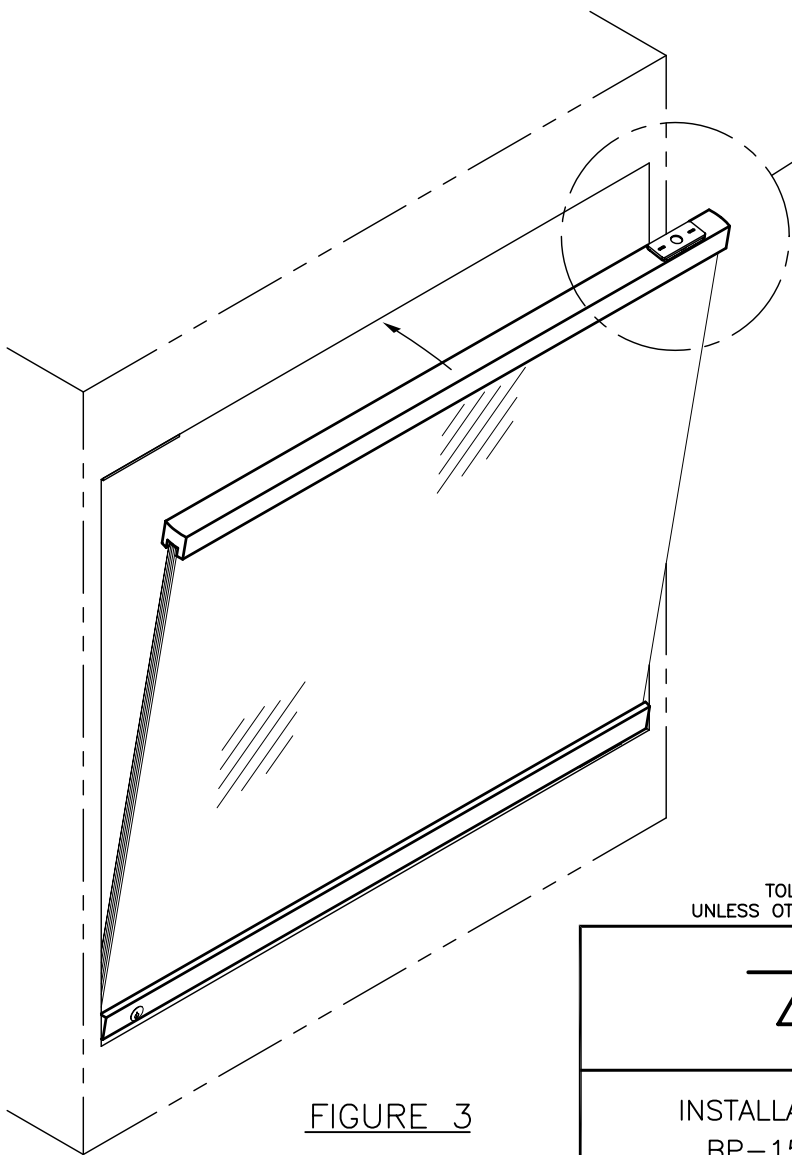

FIGURE 3
4. LIFT THE DISPLAY DOOR AND SET THE BOTTOM MUSHROOM PIVOT ON BP-150 BOTTOM PIVOT RECEPTACLE AND TILT DOOR INTO OPENING. (SEE **FIGURE 3**)